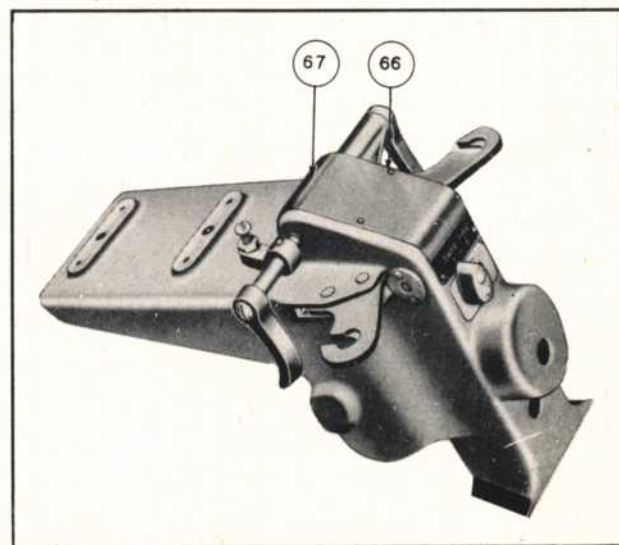
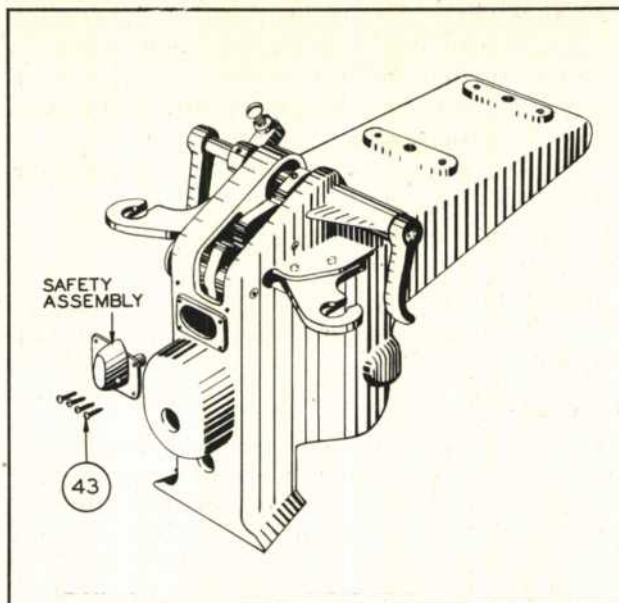

Figure 19—Removing Instruction Plate—Type E-11
Figure 20—Removing Safety Assembly From Back Guard—Type E-11
(1) Remove instruction plate (67, figure 19) which is held in place by six screws (66). Remove four screws (43, figure 20) holding safety assembly.